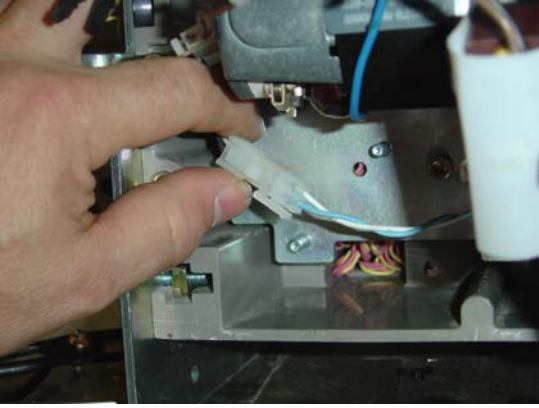

Figure 6. Connector Plug Assembly
7. Plug the connector from the RTC switch assembly with the plug marked as RTC as shown in fig 6.